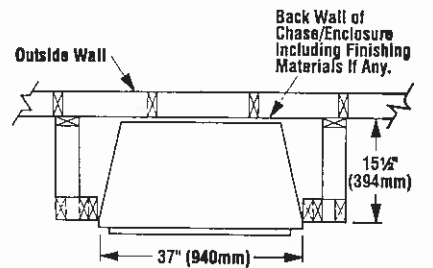

Figure 4
**Step 1.** Frame VF4 appliance enclosures as illustrated in Figures 4, 5 and 6.
**Note:** Framing dimensions in Figures 4 - 6 are calculated for a nailing flange depth of 1/2" (13 mm).